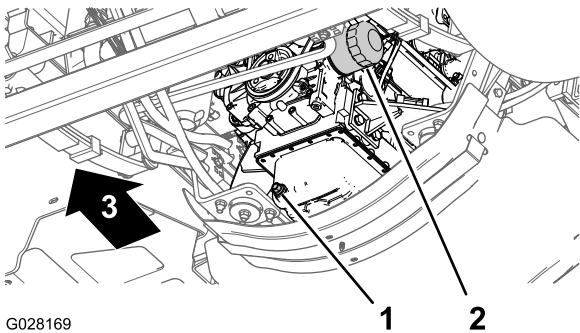

Figure 58
3. Align a drain pan under the engine oil filter (Figure 58).
4. Remove the old oil filter (Figure 58).
8. Install the oil filter to the filter adapter and turn the oil filter clockwise until the rubber gasket contacts the filter adapter, then tighten the filter an additional 1/2 turn (Figure 58).
1. Align a drain pan with a 9 L (9.5 US qt) capacity or greater under the drain plug (Figure 58).
2. Remove the drain plug (Figure 58) and allow the oil to drain completely.